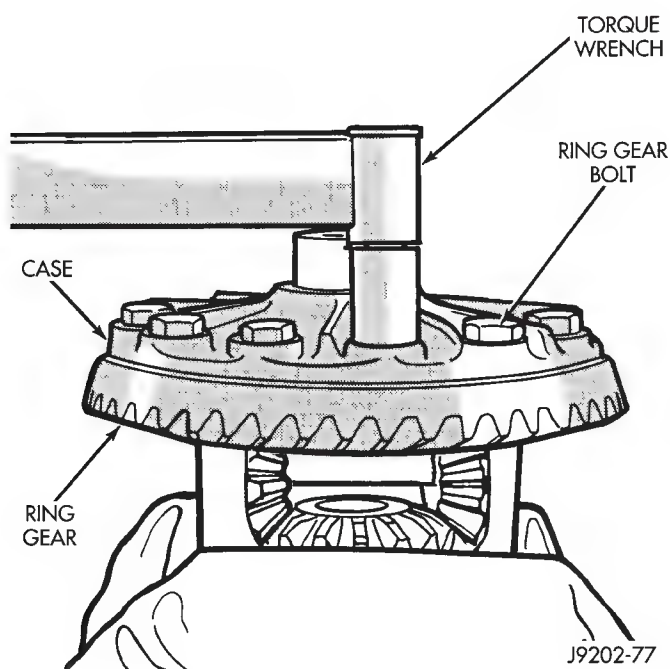

Fig. 38 Ring Gear Bolt Installation
(3) Invert the differential case and start two ring gear bolts. This will provide case-to-ring gear bolt hole alignment.
(4) Install new ring gear bolts and alternately tighten to 95-122 N·m (70-90 ft. lbs.) torque (Fig. 38).